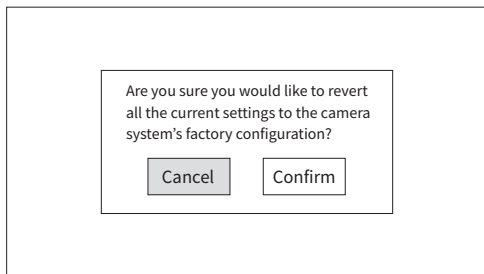

Fig.11 The factory reset interface
- (1) Long press  to enter the system setup interface.
- (2) Short press  to select “default settings”. Then long press  to enter the setup interface as shown in Fig. 11.